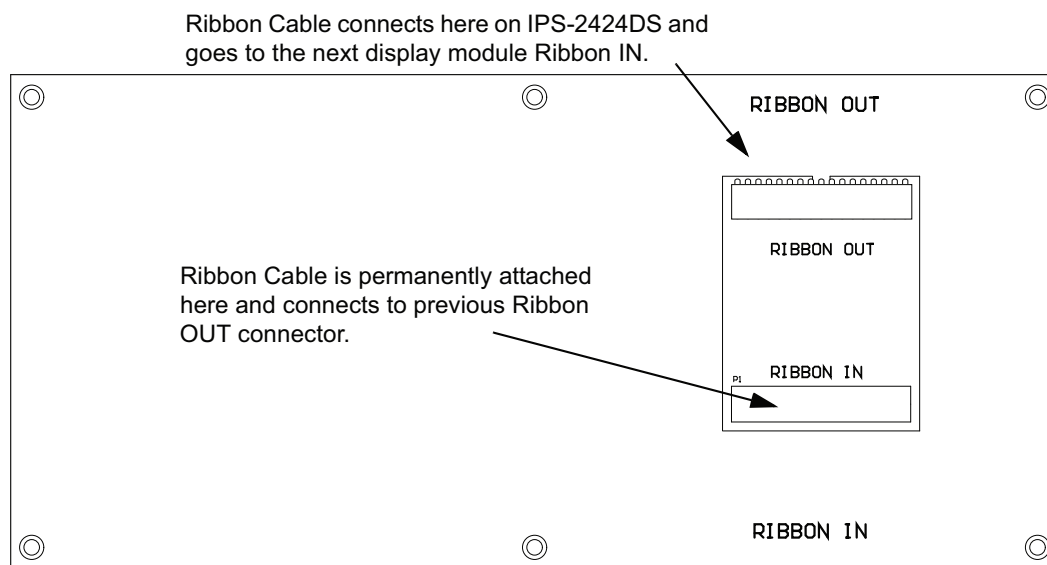

Figure 9 IPS-2424DS Cable Connections
2. Disconnect main and standby power and connect the IPS-2424DS as shown in Figure 9.